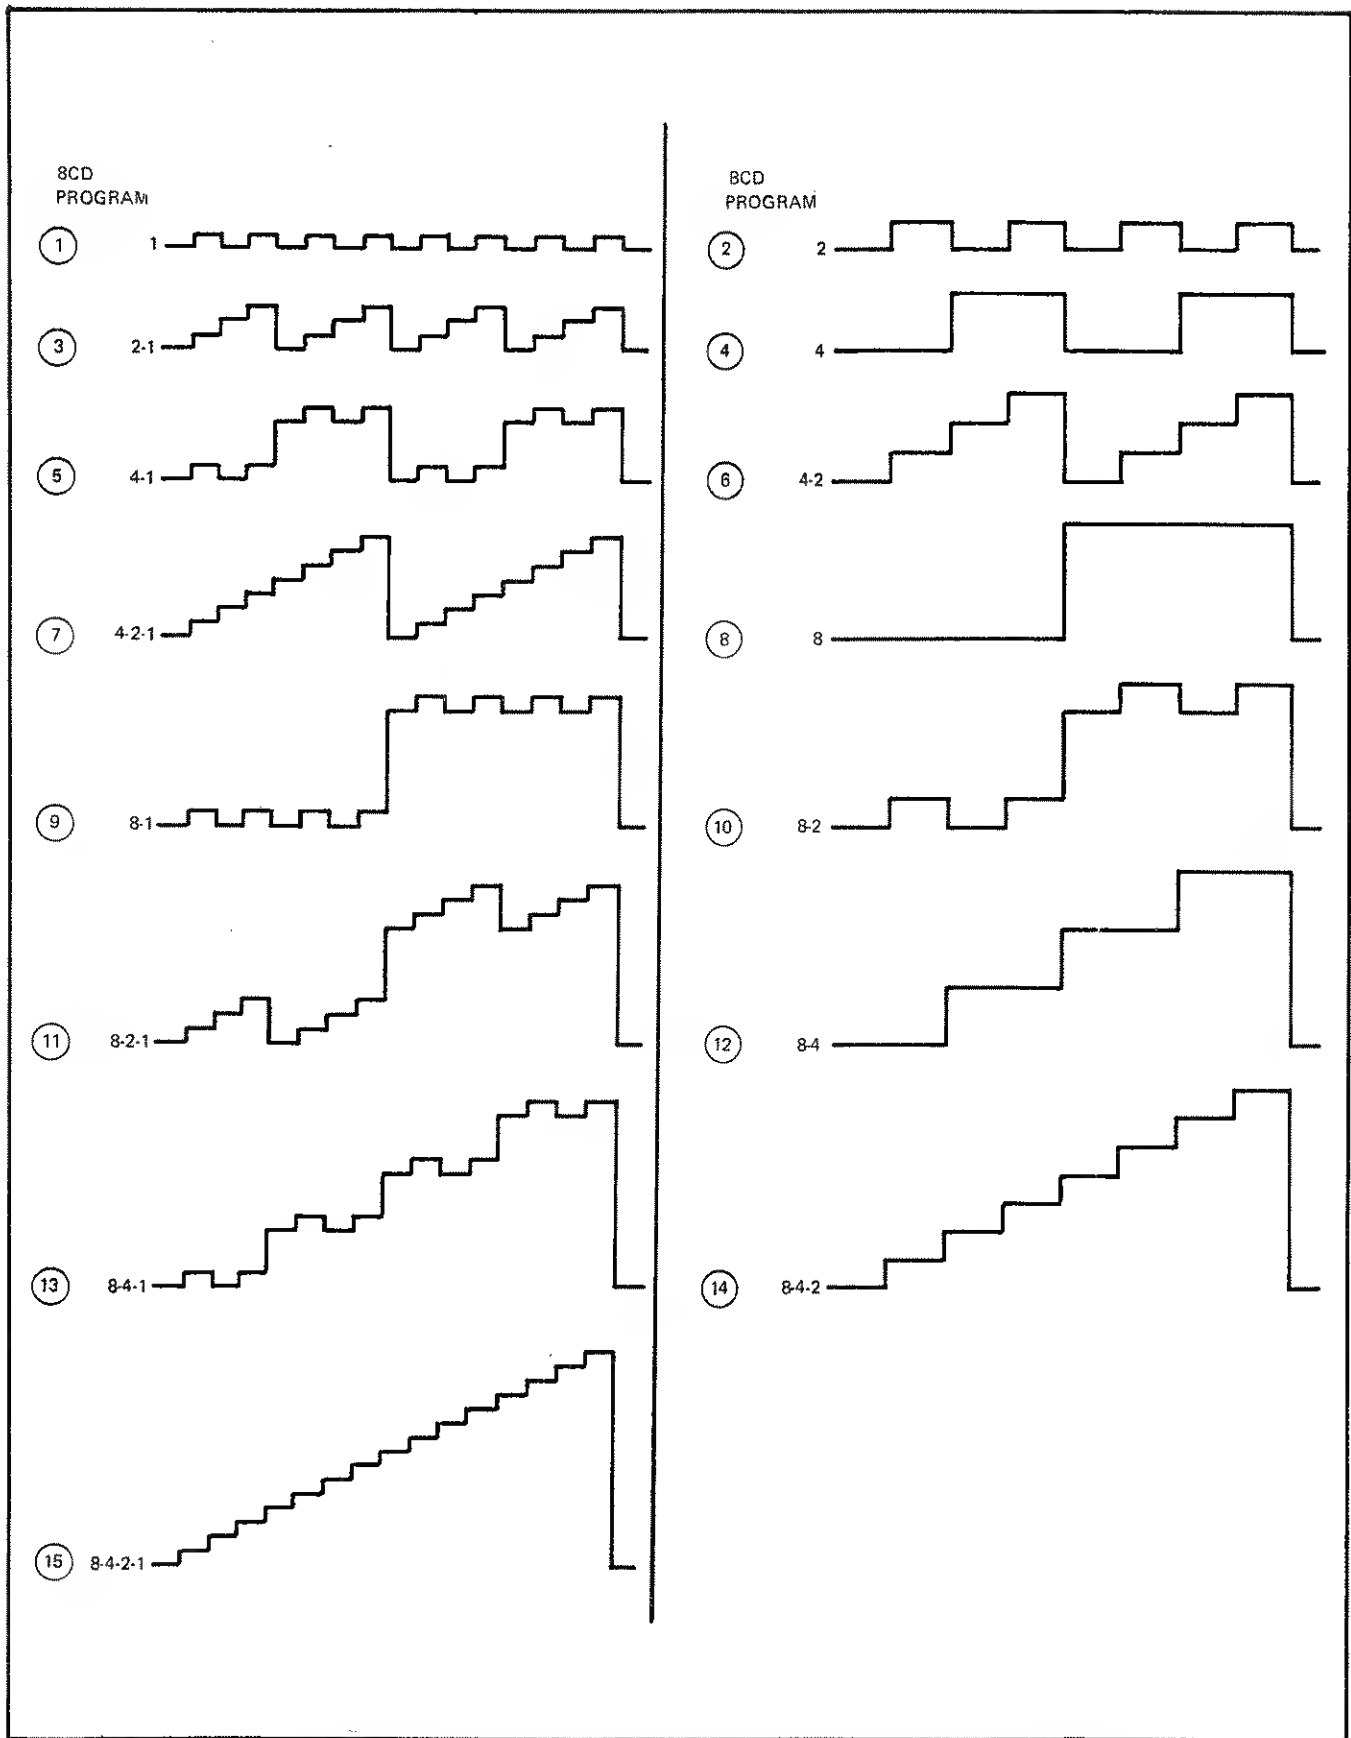

Figure 6-4. VOLTAGE PATTERNS OBTAINABLE BY DECADE PROGRAMMING
source, and (2) to the current magnitude used to program the current limit option (when installed) in the 4270A and 4275A power sources. The black coding applies to both binary and BCD magnitude power sources with the location and format of the magnitude bits identifying related power source effectivity as follows: The black binary magnitude bits above the pushbuttons apply to the 4216A and 4265A power sources. The black BCD magnitude bits below the pushbuttons apply to the 4210A, 4250A, and 4270A power sources. In MANUAL mode the magnitude inputs are programmed directly by depressing a single or combination of magnitude pushbuttons. In AUTO mode an internal binary counter controls the manually selected magnitude inputs in a four-bit binary pattern. Each output of the binary counter is parallel connected to the four corresponding BCD or binary magnitude programming switches shown in Table 6-1. The power source input program is sequenced in a pattern that is determined by the selected magnitude program switches and the binary counter outputs. Figure 6-4 shows the power source output voltage patterns available by programming a single decade in the 4210A, the 4250A, or the 4270A power source.